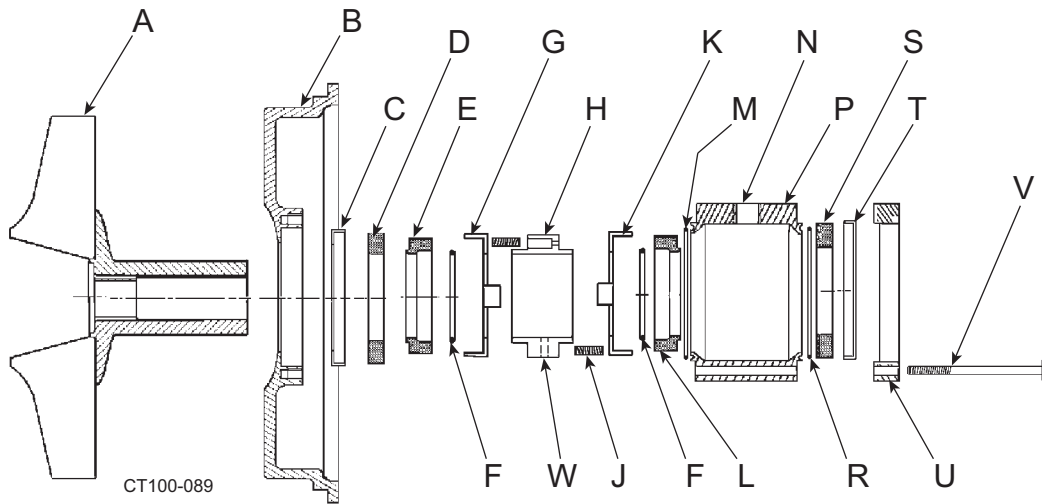
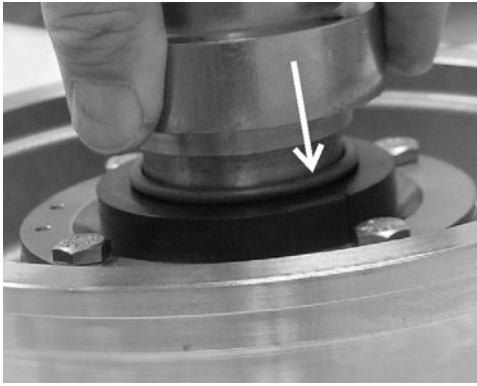

Figure 38 - Type 4 Seal Components
Figure 40 - Installing O-ring Using Spring Retainer
12. Lift off rotating seal components. See Figure 38 on page 31:
15. See Figure 38 on page 31. Remove the stationary seal (item D) and L-gasket (item C) from the backplate.
2. Install the L-gasket in the backplate (Figure 38, items B and C).
3. Install the L-gasket in the seat retainer (Figure 38, item T).
4. Install the stationary seals (Figure 38, item S) in the L-gaskets.
7. Place the O-ring (Figure 38, item F) on the shaft and use the spring retainer to push the O-ring into the rotary seal (Figure 40).
8. Place the washer (Figure 38, item G) over the rotary seal with tabs in the outside diameter notches.
9. Place three springs (Figure 38, item J) in one side of the spring retainer (item H). Hold them in place with silicone sealer, and slide the spring retainer (with the springs down) onto the impeller shaft the against the washer.
10. Place the remaining three (3) springs in the spring retainer.
11. Slide the washer and O-ring (Figure 38, items K and F) onto the shaft against the spring retainer.
13. Remove the 1/4 NPT plug from the center port on the flush housing (Figure 38, item N).
14. Install an O-ring (Figure 38, items M and R) in both ends of the housing.
15. Install the L-gasket in the seat retainer (Figure 38, items T and U).
16. Install the stationary seal (Figure 38, item S) in the L-gasket.
18. With flush ports facing away from the backplate, place the seat retainer (Figure 38, item U) on the housing.
19. Tighten the seat retainer in place with four (4) hex screws (Figure 38, item V).
24. Tighten the setscrews in the spring retainer through the 1/4" NPT center port in the flush housing (Figure 38, item N).